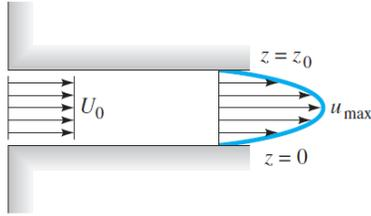

Fig. 3.6
3.6 Incompressible steady flow in the inlet between parallel plates in Fig. 3.6 is uniform, $u = U_0 = 8$ cm/s, while downstream the flow develops into the parabolic laminar profile $u = az(z_0 - z)$, where a is a constant. If $z_0 = 3$ cm and the fluid is SAE 30 oil at 20°C, what is the value of u_{\max} in cm/s?